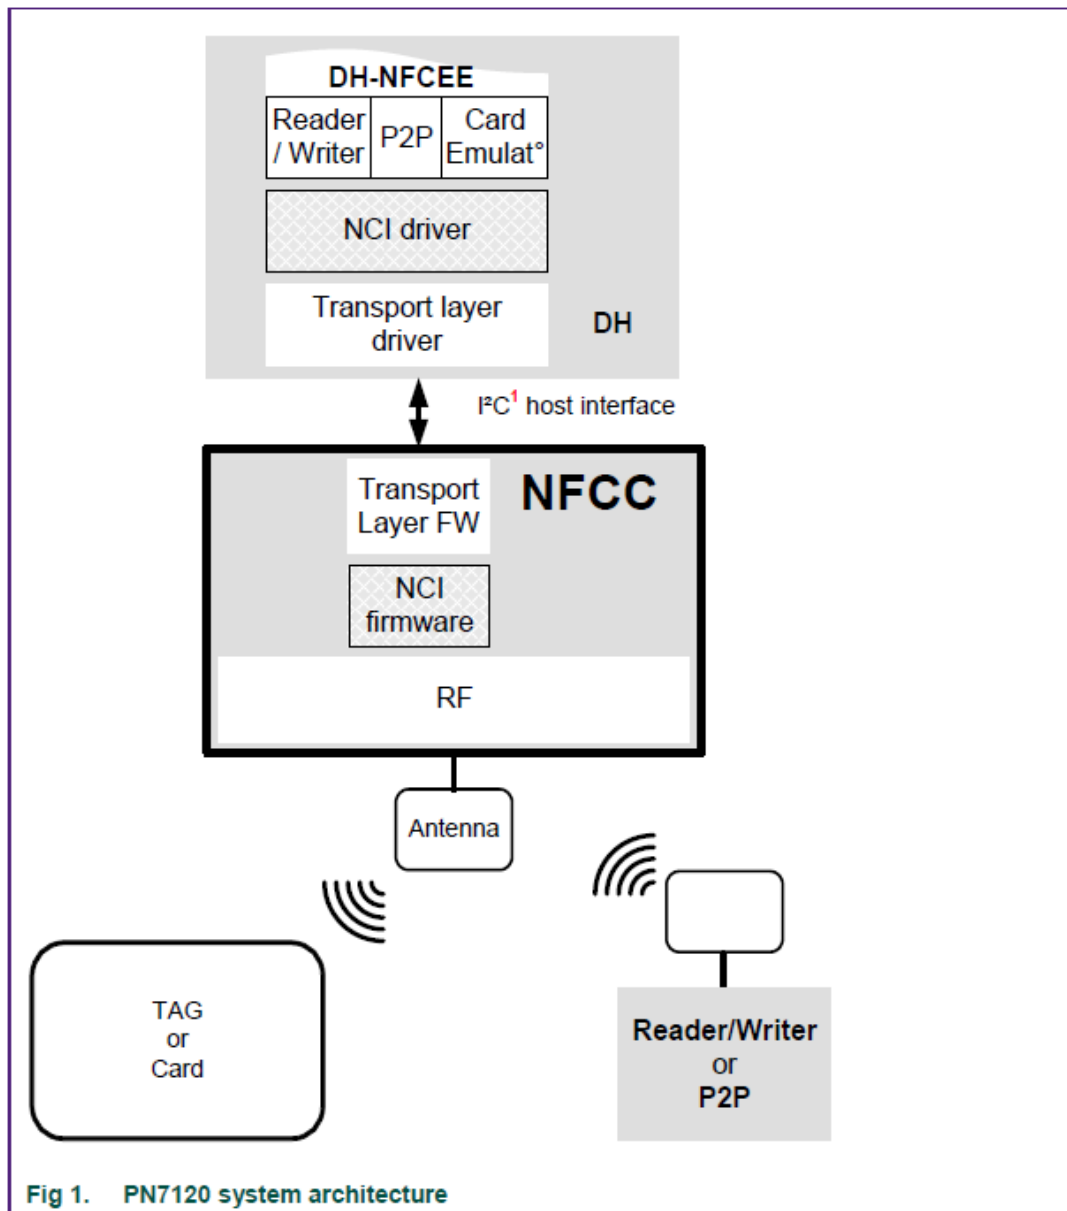

Fig 1. PN7120 system architecture
The PN7120 is an NFC Controller, which is briefly described in Fig 1:
- The top part describes the Device Host (DH) architecture with Higher Layer Driver (i.e Android stack) hosting the different kind of applications (Reader/Writer, Peer to Peer, Card Emulation in the DH-NFCEE), the NCI driver & the transport layer driver.
- The PN7120 is the NFCC in the Fig 1. It is connected to the DH through a physical interface which is an I²C. The PN7120 firmware supports the NCI specification. The firmware also provides support for additional extensions that are not contained in the NCI specification. These additional extensions are specific to the PN7120 chip and are proprietary to NXP.